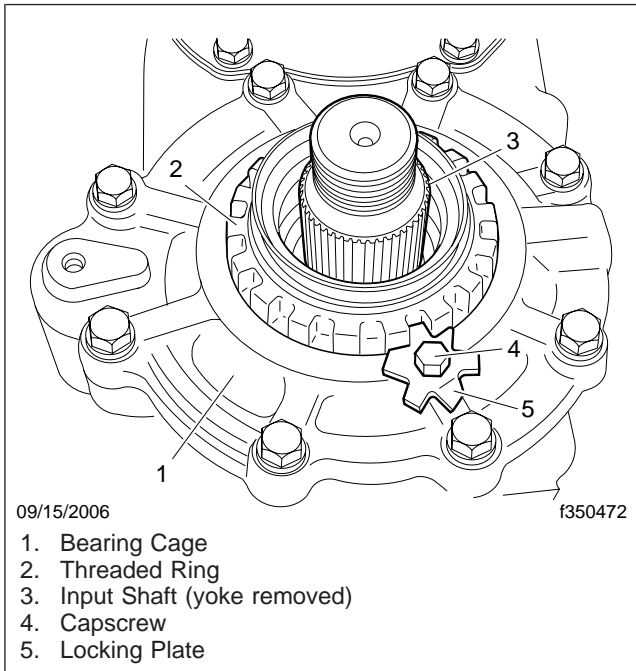

Fig. 1, Forward-Rear Axle Differential Housing
4. Remove and discard the capscrew and the locking plate from the bearing cage on the front of the differential carrier. See Fig. 1.